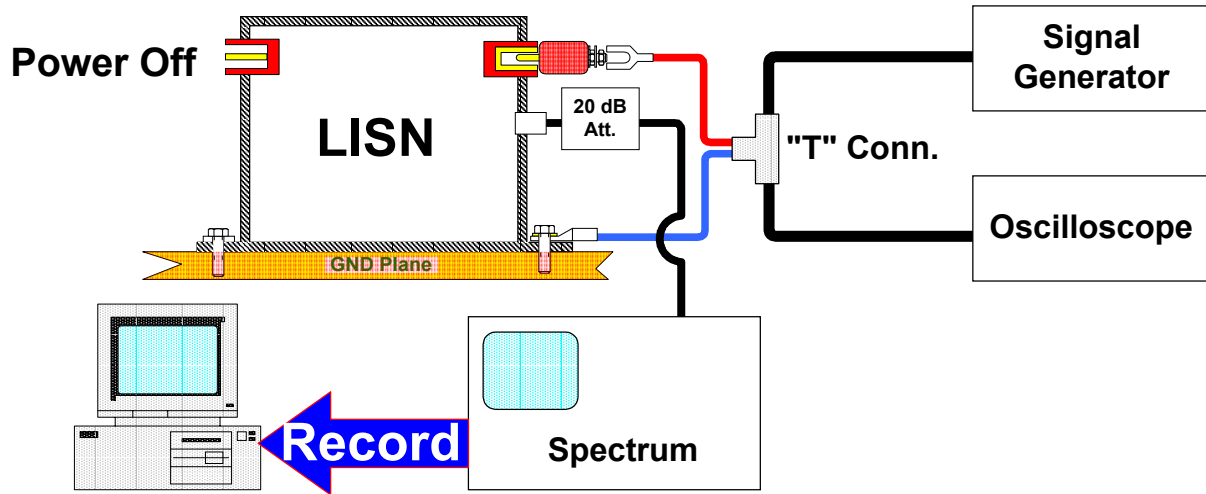

Figure CE-1
- (1) Calibration setup shown in Figure CE-1.
Perform the measured system check using the calibration setup shown in Figure CE-1.